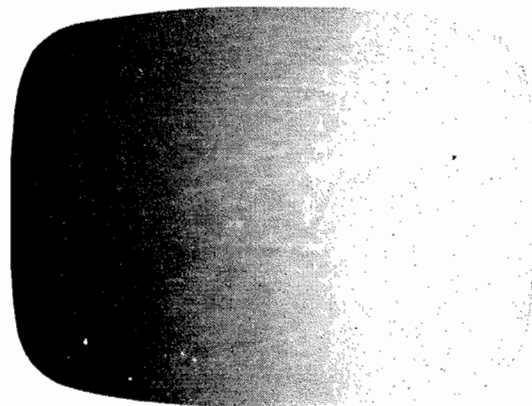

Figure T-1. Picture of a RA-112A CRT raster showing the effect of an open negative bias filter capacitor.
*Symptom:* Insufficient brightness at the left side of the raster. (See Figure T-1) Sync adjustments are extremely critical. Brightness varies with hold control setting.